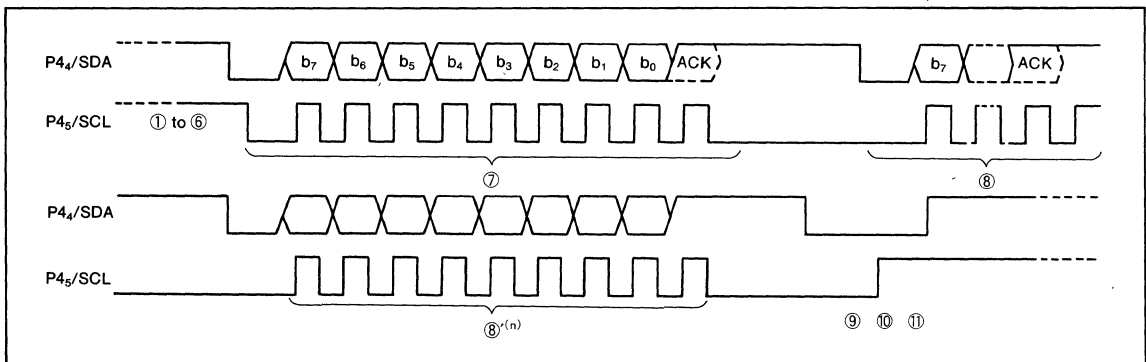

Fig. 14 Master transmission timing
⑧ To transmit data successively, write data to be sent to the special serial I/O register, and set the interrupt enabled state again. By repeating this procedure, unlimited number of bytes can be transmitted.
⑨ To terminate data transfer, clear bits 0 and 1 of the special mode register 2 to "0".
⑩ Set bit 1 clock SCL to "1".
⑪ Then set bit 1 data SDA to "1". This procedure transmits the stop signal. Figure 14 shows master transmission timing explained above.
(2) Master reception
Master reception is carried out in the interrupt routine after data is transferred by master transmission. For master transmission and interrupt thereafter, see the preceding section (1) Master transmission (the process until ⑦ in Figure 14).
Repeat the above receiving operation for a necessary number of times. Then return to the master transmission mode and transmit the stop signal by the same procedure for the master transmission (the process from ⑨ to ⑪ in Figure 14).